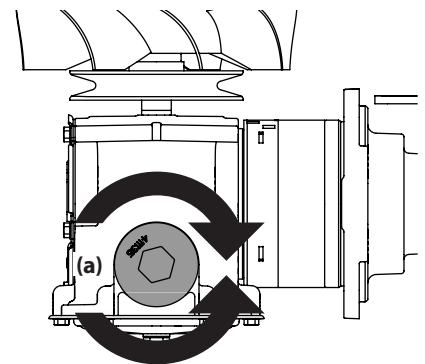

Figure 43
2. Place a suitable container under the drain plug (a) on the transmission. Remove the drain plug (a) and allow the transmission oil to drain. See Figure 43.